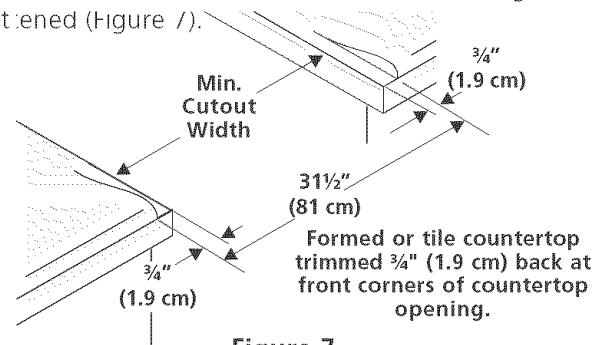

Figure 7
- **Formed front-edged countertops** must have molded edge shaved flat 3/4" (1.9 cm) from each front corner of opening (Figure 7).
- **Tile countertops** may need trim cut back 3/4" (1.9 cm) from each front corner and/or rounded edge flattened (Figure 7).